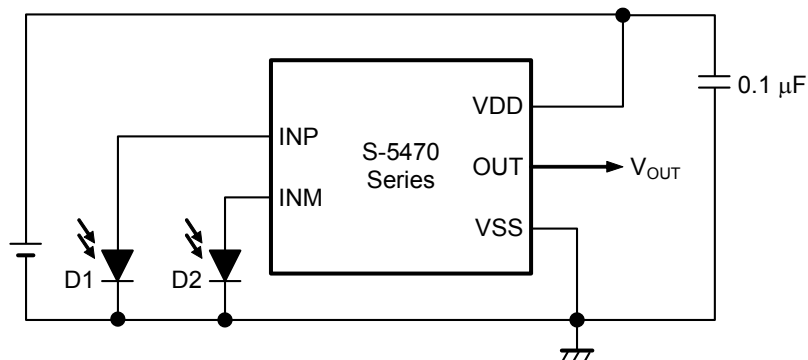
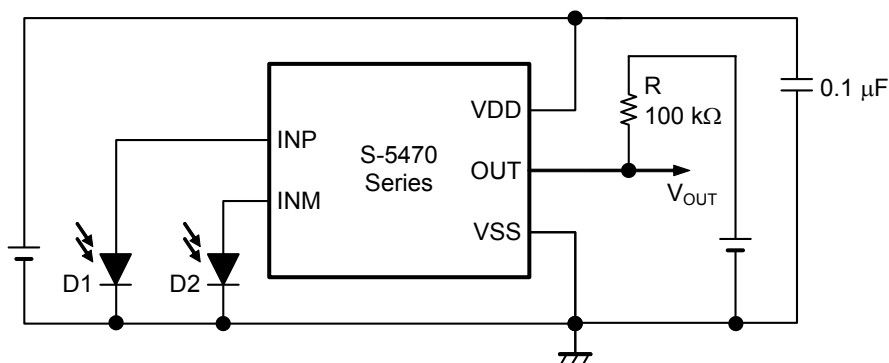

Figure 22 Example Photocurrent Level Difference Detector (CMOS Output Product)
Figure 23 Example Photocurrent Level Difference Detector (Nch Open-drain Output Product)
2. As for the circuit of detecting photocurrent difference, shown in Figure 22 and Figure 23, use the two PDs or the two LEDs that have the same characteristics in generation voltage and in generation current, respectively.
- As for the detecting circuit of the photocurrent difference (Refer to "**Figure 22, Figure 23 Example Photocurrent Level Difference Detector**"), use the S-5470 Series when input current of INP pin is 20 μ A or less and input current of INM pin is 10 μ A or less. In case of input current excess, note that the S-5470 Series might malfunction.